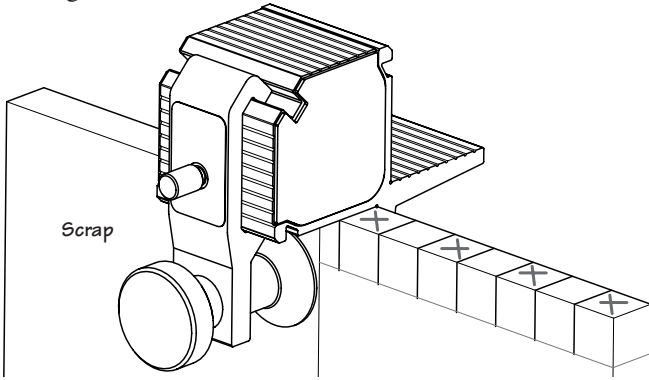

Figure 9: Using a scrap piece of wood adjacent to the workpiece to secure the guide for the last cuts.
12. For the fingers at the ends of the boards, clamp the guide to an adjacent piece of wood of the same thickness (**Figure 9**) in order to keep the guide secure while sawing.